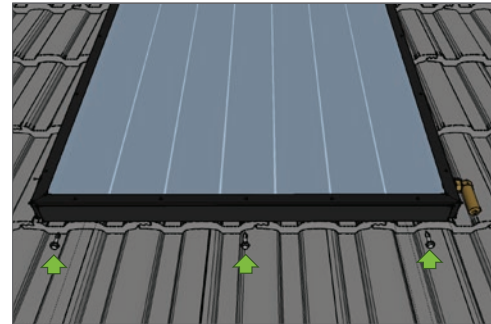

Fig 6
8. Fasten the collectors to the mounting rail using the screws supplied (Fig 6)